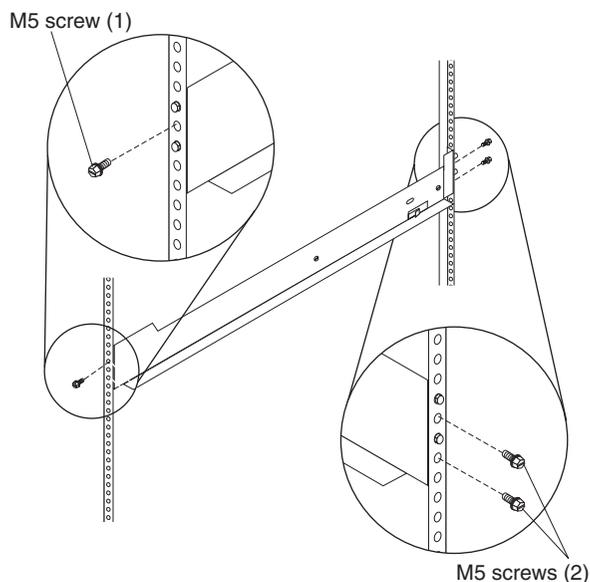

Figure 3. Securing the support rails in the rack
3. From the front of the rack cabinet, with the support-rail flanges positioned inside the rack cabinet support rail assemblies, tighten one M5 screw in the second hole from the top of the rail bracket with a screwdriver, as shown in Figure 3 on page 6.